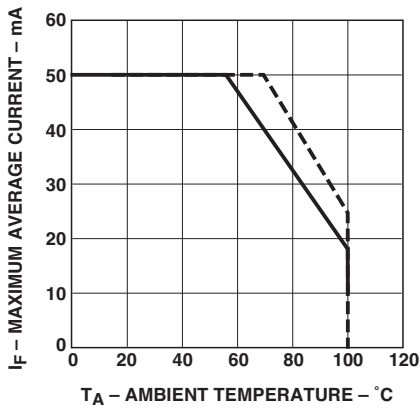

Figure 1. Maximum forward current vs. ambient temperature. Derating based on $T_{JMAX} = 130^{\circ}C$.
- Derate linearly as shown in Figure 1.